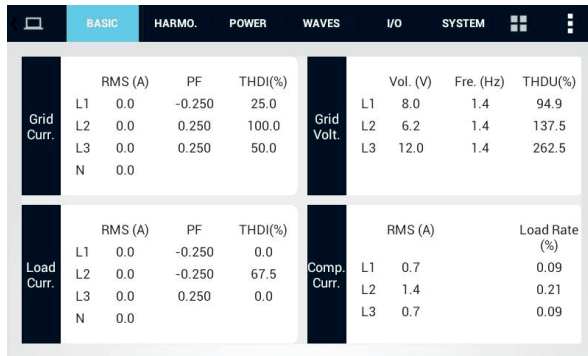

Figure 6-3 Real time info
- ◆ Click “**BASIC**” button on the bottom menu in the main interface to enter the real-time info interface (real-time info includes basic information of voltage and current, dry contacts information, harmonic analysis information and power information). As shown in Figure 6-3, user can check information about grid voltage, grid current, load current and compensation current;
- ◆ During the operation, if user is not satisfied with the compensation performance of real-time info displayed in Figure 6-3, the settings can be changed by clicking “SYSTEM” button.